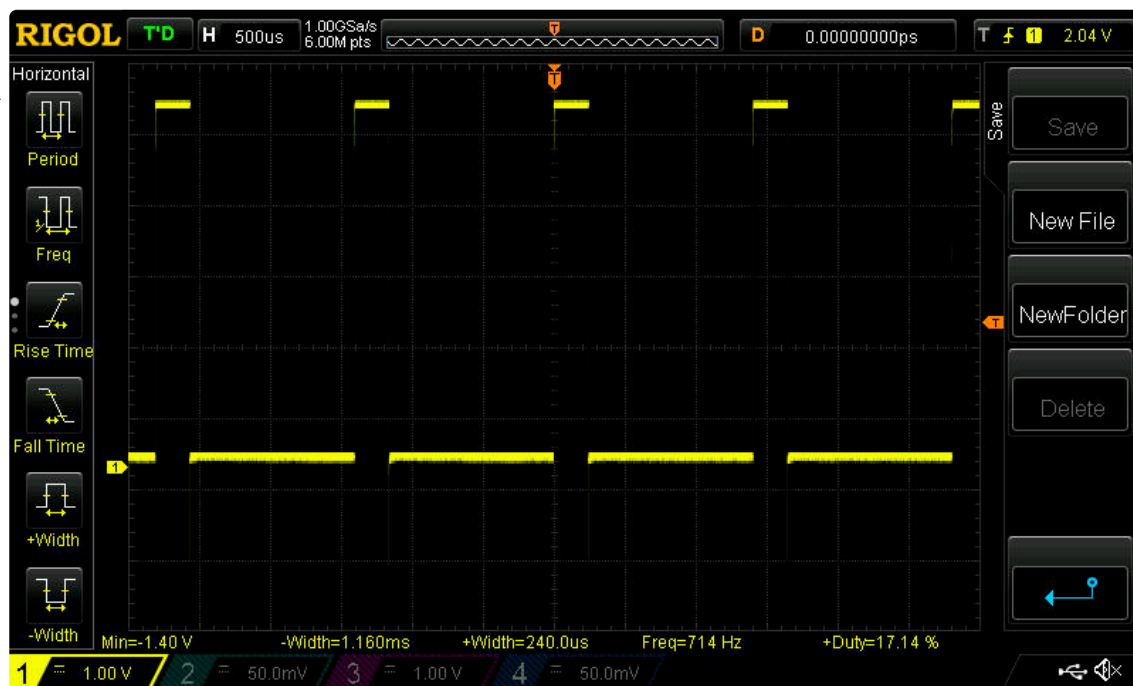

Figure 5: Scope screenshot of the measurement shown in Figure 6.
**Figures 5 and 6** show a comparison between measurements taken with an oscilloscope and those of the PIC16F648 system. In this case, a TTL pulse generator was used.